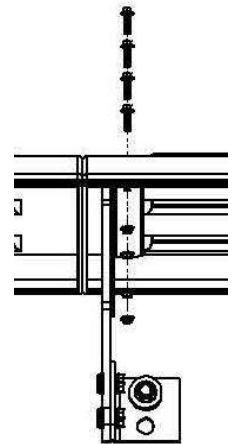

Figure 9
F. Drill four 5/16" holes through the fender using the holes in bracket PB5071 as a guide (Figure 9).